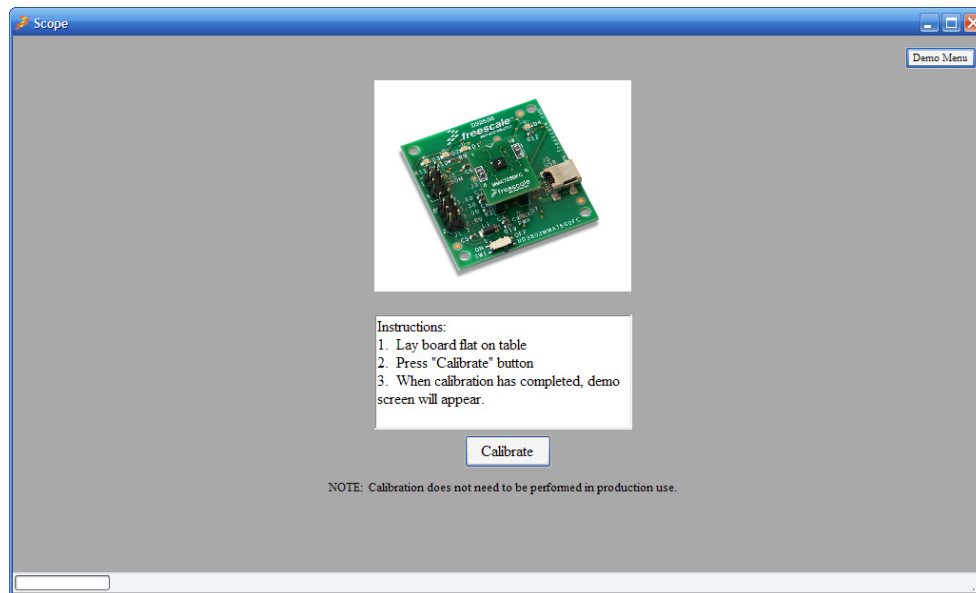

Figure 15. Calibrate Board for Scope Demo
1. Place the board flat on the table (Figure 15).